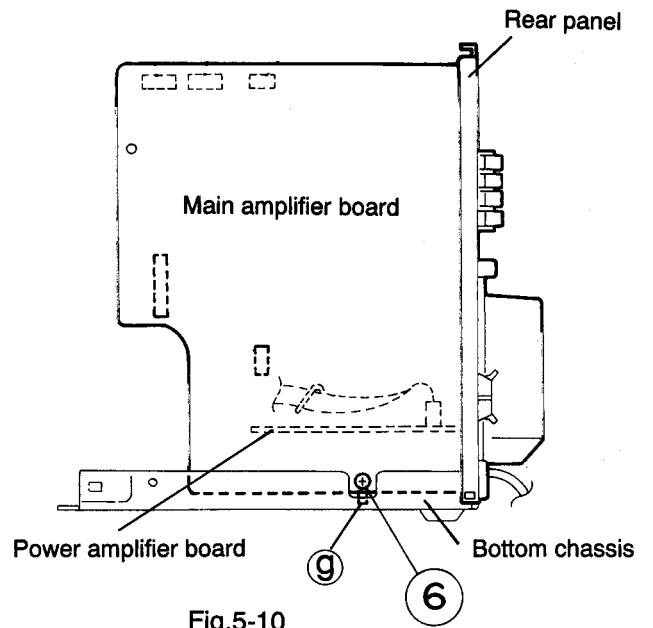

Fig.5-10
(See Fig. 5-10)
8. Remove the rear panel assembly from the bottom chassis by disengaging the protrusion ⑨ of the main amplifier board from the cutout in the bottom chassis.(See Fig. 5-10)